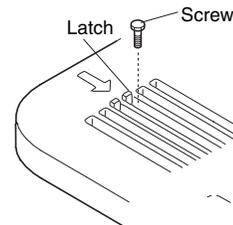

Fig. 3-15
##### Remove the air-intake grille and air filter from the ceiling panel. (Figs. 3-15, 3-16 and 3-17)
- a) Remove the 2 screws on the latch of the air-intake grille. (Fig. 3-15)